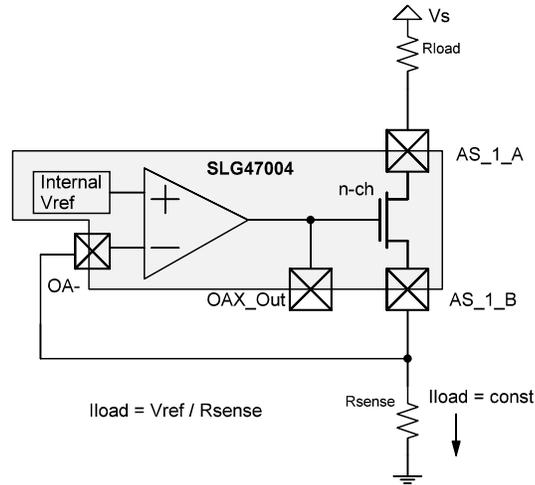

Figure 67: Constant Current Sink
Also, the op amp output can drive the N-FET (part of the Analog Switch) in order to implement a constant current sink. Note that FETs of Analog Switches have different resistances. Analog Switch 0 has $R_{ds_PMOS} \ll R_{ds_NMOS}$, while Analog Switch 1 has $R_{ds_NMOS} \ll R_{ds_PMOS}$. That's why it is recommended to implement current sink mode using Analog Switch 1. In this mode, the op amp output is LOW when the macrocell is turned off. Figure 67 (A) shows a typical implementation of this Current Sink Function. Note that op amp must operate in operational amplifier mode (register 750 = 0 for Op Amp0, register 751 = 0 for Op Amp1).